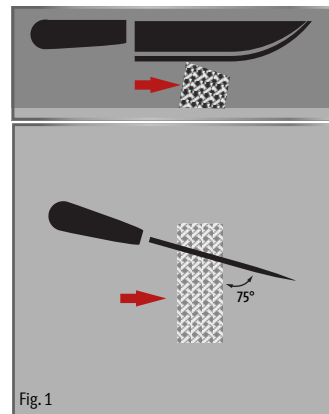

Fig. 1
- Cut the end of the packing as shown in fig. 1